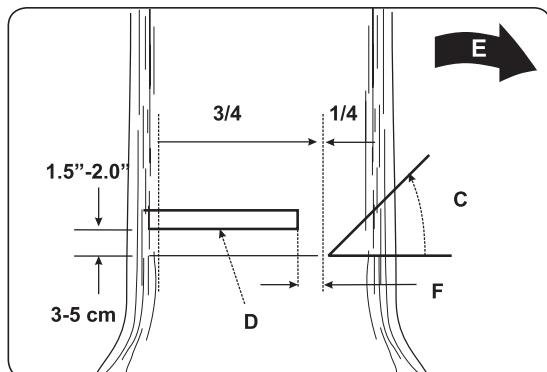

Fig. 10B
WARNING: Never walk in front of a tree that has been notched. Make the felling cut (D) from the other side of the tree and 3–5 cm above the edge of the notch (C) (Fig. 10B).